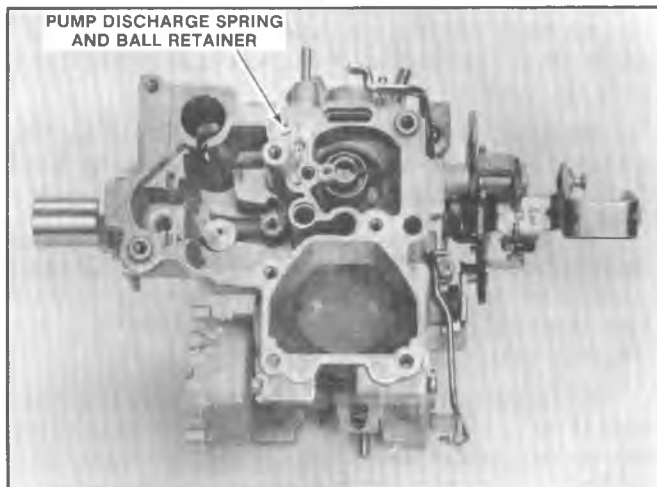

Fig. 6C2-38--Pump Discharge Spring and Ball
8. Install pump discharge steel check ball and spring in passage next to float chamber (Fig. 6C2-38). Insert end of new plastic retainer into end of spring and install retainer in float bowl, tapping lightly in place until top of retainer is flush with bowl casting surface.